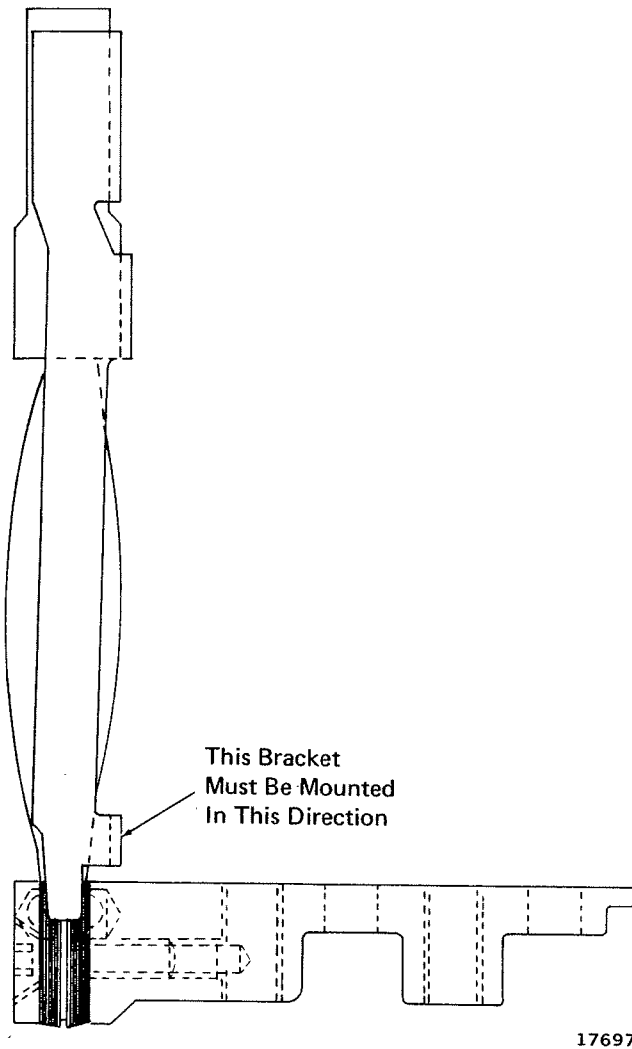

Fig. 4 - Contact Support And Terminal Assembly
1. Slide armature linkage (24) into slot in armature (25), push bearing pin (23) into hole in armature and linkage, secure with screw and lockwasher.
2. Place top terminal molding (2) in a horizontal position on bench. Be certain that the support areas for springs are free of all foreign particles.
3. Place one dual wiper spring (22) over the projections adjacent to the rear hole in the top terminal molding (2), the wire connecting dual springs must be at the bottom end.
4. Place a pivot spring cap (3) on one end of the pivot springs (4). Place the other end of the spring over the conical front pins in the top terminal molding (2).
5. Insert one spacer (5) with the short leg of the "L" down between pivot springs (4) and the long leg extending back between halves of the dual wiper spring (22).
6. Position two new stationary contacts (8) over dual wiper spring (22) and two pivot springs (4). Be certain that spring caps (3) are firmly seated on pivot springs (4).
7. Insert the pointed nose of contact assembly (top) (9) into the cavity in back of stationary contacts (8) engaging the mating pivots. See instructions in kit for view of stationary contact terminal assembly.
8. With the pivots engaged and the contact assembly (top) (9) held back against the stop in the top terminal molding (2) secure with two 5/16-18 x 7/8" hex socket head capscrews and 5/16" lockwashers.
9. Check for freedom of motion of both stationary contacts (8). The gap behind the contacts should be .045" nominal.
11. Position movable contact support assembly (15) and clamping plate (16) on end of bottom terminal (13) and secure with two 25-20 x 1" flat head hex socket screw and 25 counter-sunk lockwasher. See Fig. 4 for correct mounting of movable contact support assembly (15) to bottom terminal (13).
13. Insert one contact support and terminal assembly (14) through one slot in bottom terminal molding (12). Position against molding and secure with two 5/16-18 x 3/4" hex socket head capscrews and 5/16" lockwashers - helicoil spring. Repeat for other contact support and terminal assembly (14).
14. Insert armature and operator assembly (26) between magnet assembly (11) and contact support and terminal assemblies (14). Movable contact support assemblies (15) to pass through windows in operator (28). Bottom of armature (25) to be seated on bottom terminal molding (12) between guides on molding and against bottom leg on magnet yoke (10).